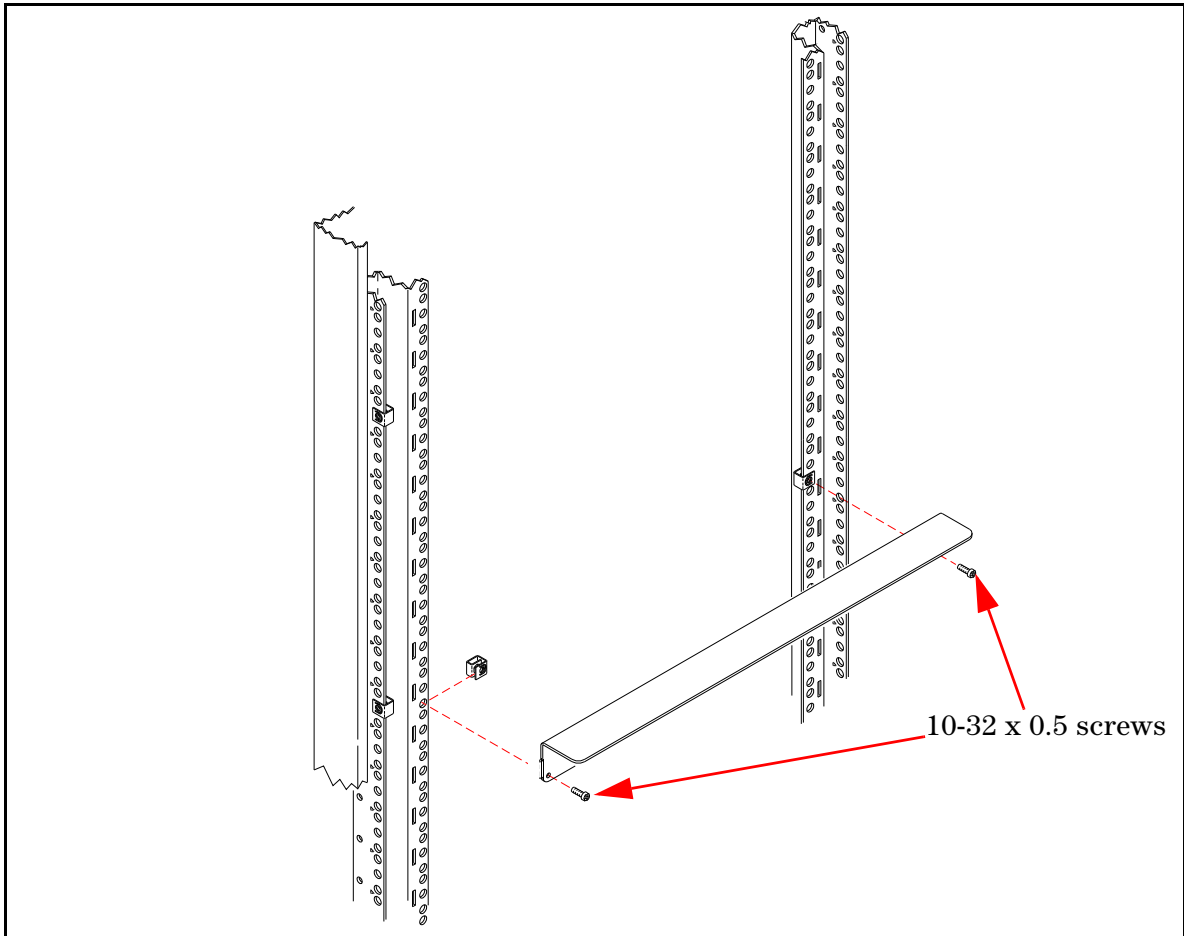

Figure 5 . Attaching the Support Rails to the Rack.
INSTALL THE SUPPORT RAILS UPSIDE DOWN IN THE RACK! To provide adequate air flow to the ventilation holes on the sides of the chassis, you must install the rack slides upside down as shown in Figure 5.
- 7 Attach the support rails **UPSIDE DOWN** to the rack's inside vertical columns. Use four channel nuts and the four 10-32 x 0.5 support rail-to-rack pan head screws as shown in Figure 5.